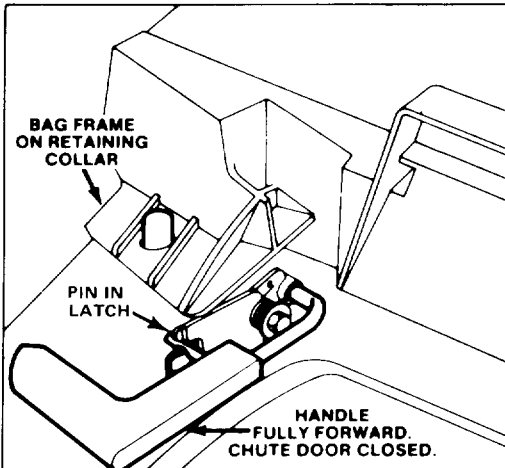

Figure 5
**MULCH**—In summer when grass grows slower and is drier, mulch by closing chute door (Fig. 5). For convenience and protection, keep grass bag on mower.
**2.** Assure chute door handle is fully forward and pin is engaged in catch (Fig. 5).
5. EMPTYING BAG—Release control bar and wait for blade to stop. Move chute door handle forward to engage the locking pin with catch (Fig. 5). Grasp handle at front and rear of bag and lift bag off mower. Gradually tip bag forward to empty clippings.